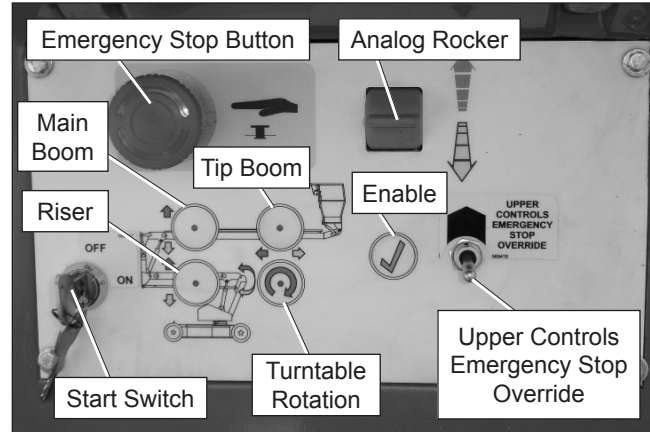

Figure 8.4 – Lower Controls
2. At the lower controls pull the emergency stop button outward (refer to Figure 8.4).